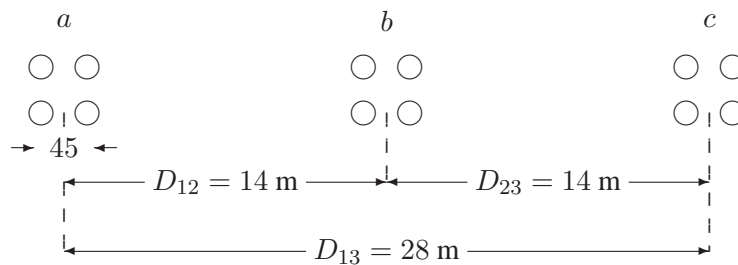

FIGURE 41
4.10. A single-circuit three-phase transmission transposed line is composed of four ACSR 1,272,000 cmil conductor per phase with horizontal configuration as shown in Figure 41. The bundle spacing is 45 cm. The conductor code name is *pheasant*. In *MATLAB*, use command `acsr` to find the conductor diameter and its *GMR*. Determine the inductance and capacitance per phase per kilometer of the line. Use function `[GMD, GMRL, GMRC]=gmd`, (4.58) and (4.92) in *MATLAB* to verify your results.